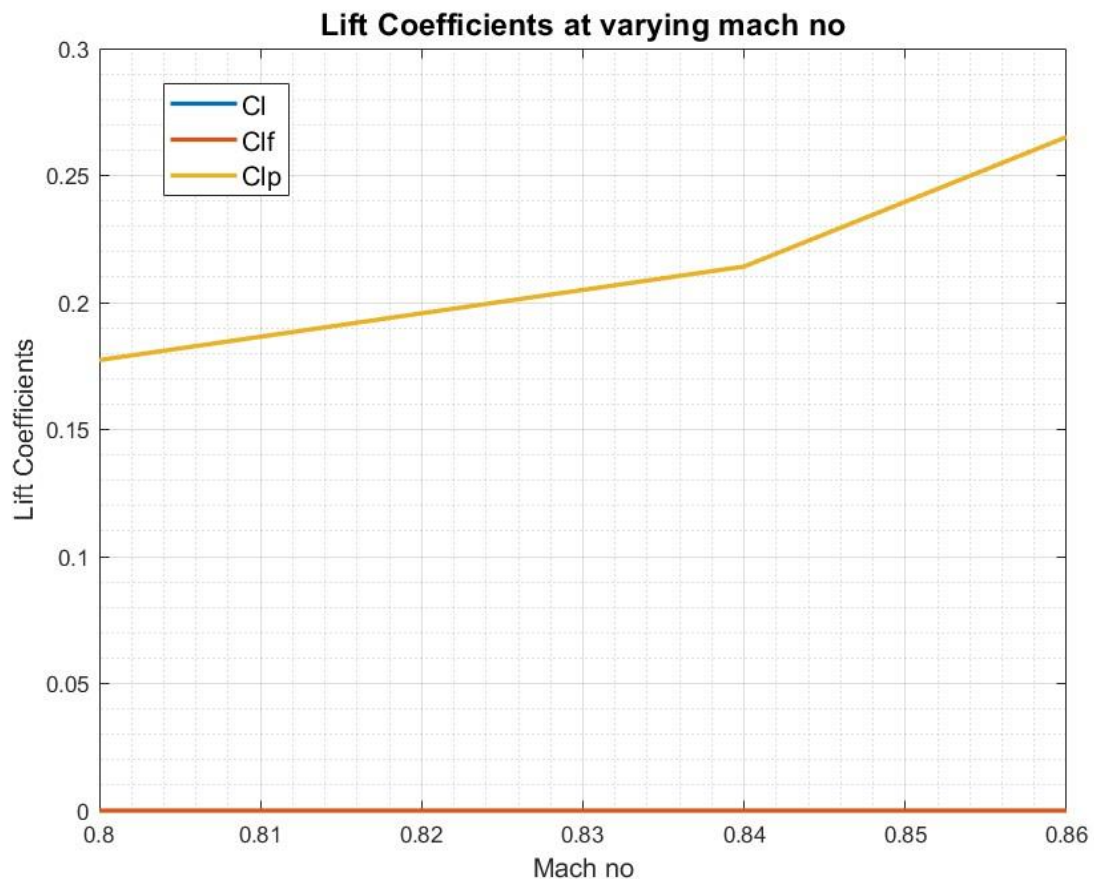

Fig:12 – Lift Coefficients plot at varying Mach no
- Fig 12 shows the Lift coefficients plot at varying Ma for the BLC coupled TSD code.